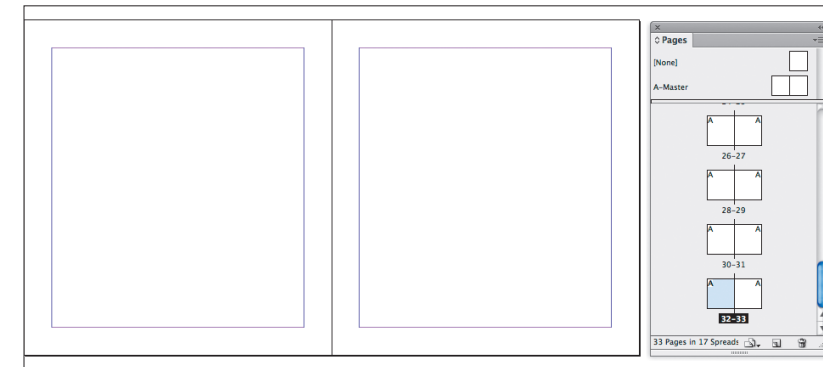
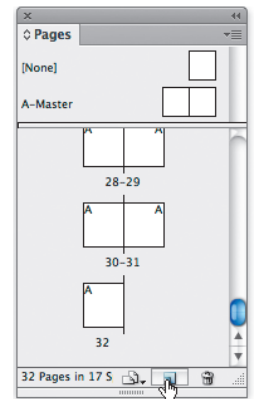

FIGURE 17.17 Pages 32 and 33 in the Pages panel show the last spread (which will end up being the centerfold).
FIGURE 17.16 Add a new page in the Pages panel.
3. Inspect your new document. Note that the Pages panel will begin with a first page that has no facing page attached to it. Since you'll ignore this page, you need to add an additional page to face the last one in the document. Click the Create New Page button at the bottom of the Pages panel (FIGURE 17.16). Now you have a single page at the top of the Panel that you'll dismiss and a set of 32 facing pages (FIGURE 17.17).